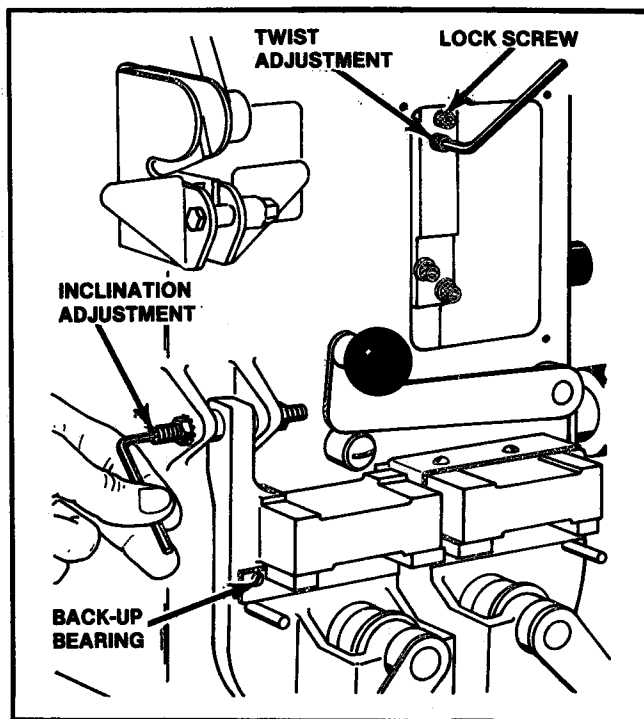

FIG. 20. INCLINATION & TWIST ADJUSTMENTS.
- (2) **Inclination.** Adjust stationary jaw inclination until it matches that of the stationary jaw. Do this by using an Allen wrench to loosen two set screw locknuts; then adjusting the set screws. See Fig. 20.